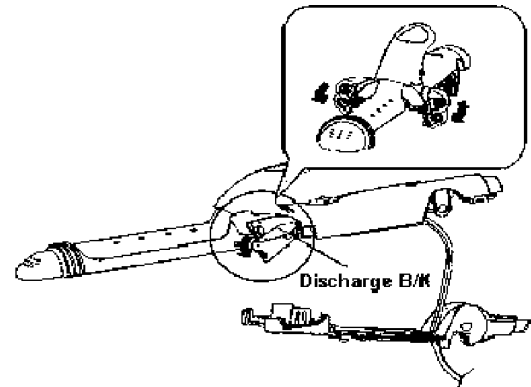

Figure 8
4. Remove Discharge B/K(both side) from Steam pipe holder A as shown in Figure 8.